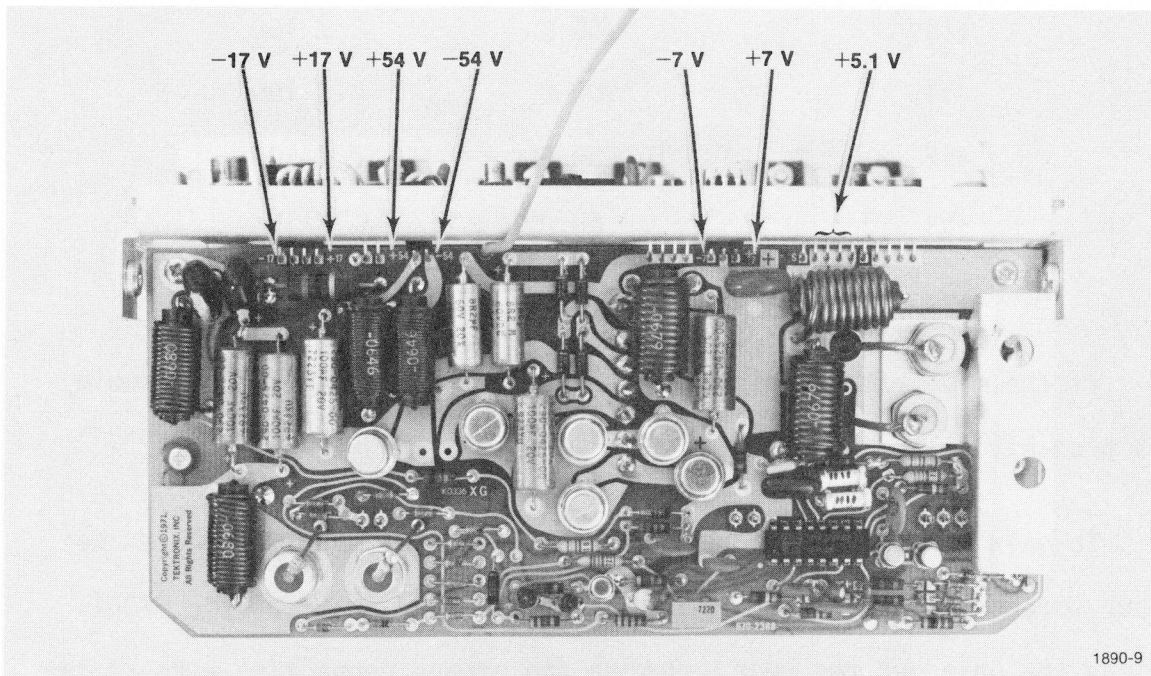
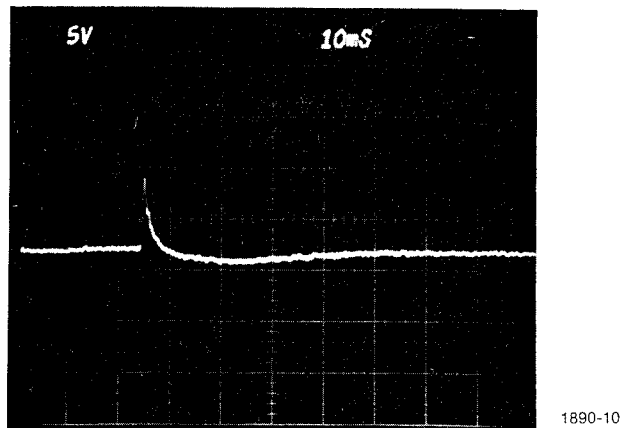

Fig. 9 - Rectifier-Filter Board.
Fig. 10 - Typical Supply Voltage Waveform
PROBABLE CAUSE: One of the semi-regulated voltages at the points indicated on the rectifier-filter board (Fig. 9) is inoperative. With your test scope set for a sweep of 50 mS/div, vertical sensitivity for an on-screen display using a 10X probe and dc coupling, the voltage waveforms should resemble that of Fig. 10.
- c. ADJUST - R43 the variable resistor on the Rectifier-Filter Board (Fig. 9, page 24) for a meter reading of 5.1 volts.